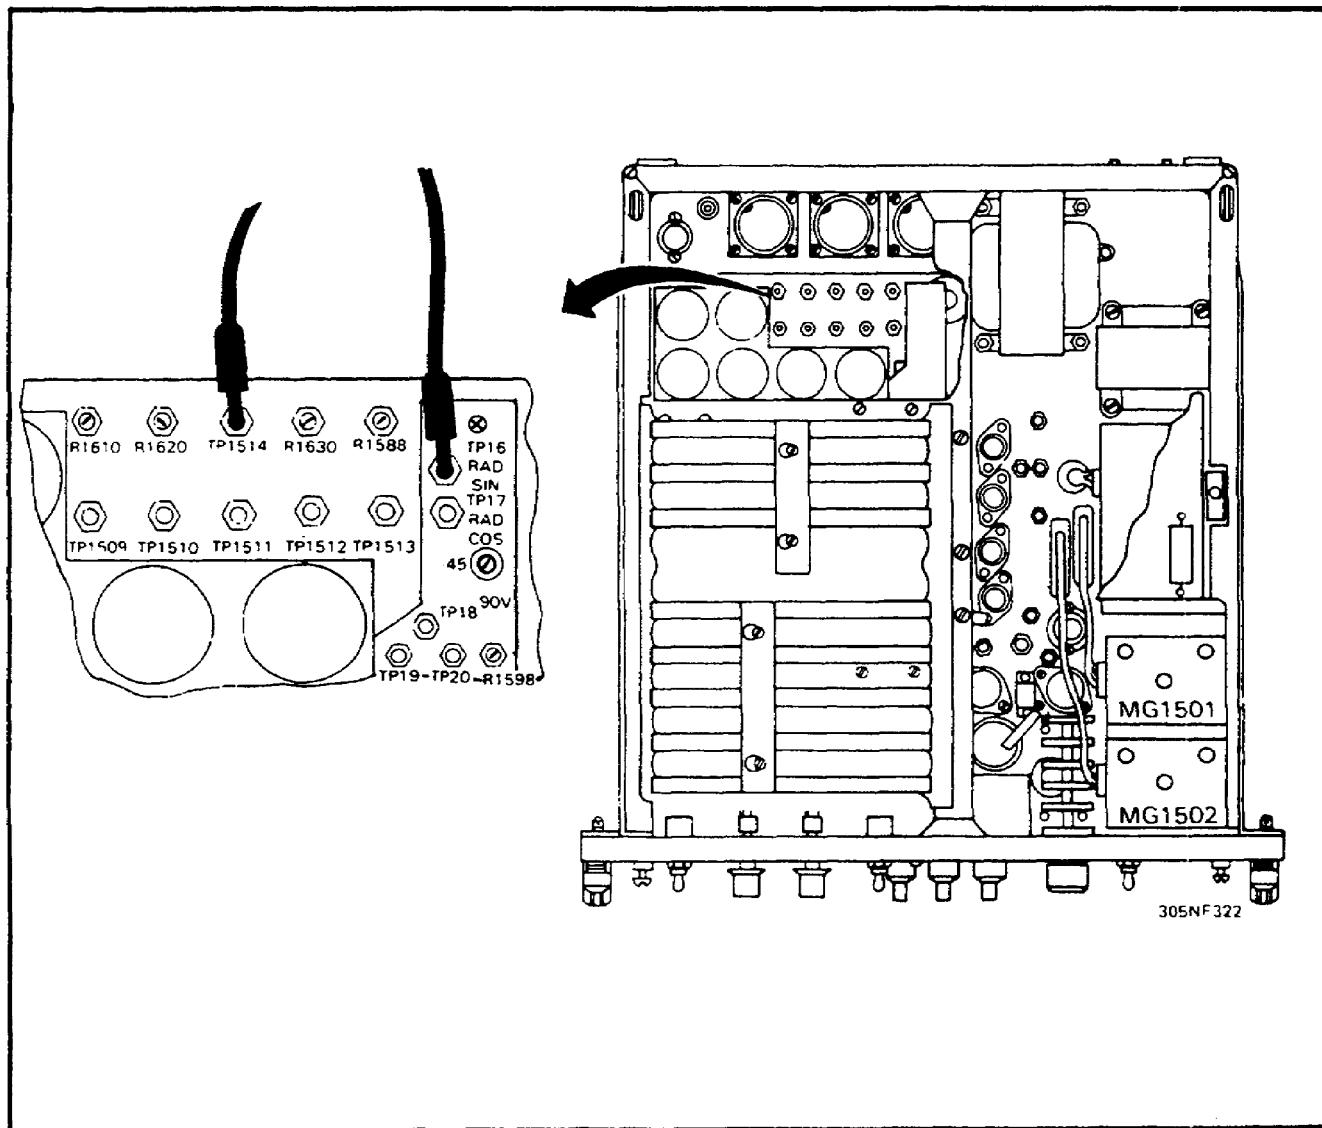

Figure 16. Radar sine test connection.
- i. Connect multimeter between the rad sin test point TP-1516 and ground test point TP-1514. (See Figure 16.)